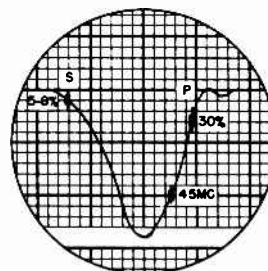

Fig. 18. Over-all Curve
- The fine tuning control is set to place the picture carrier at 30% and the audio carrier between 5-8% as shown in figure 18.